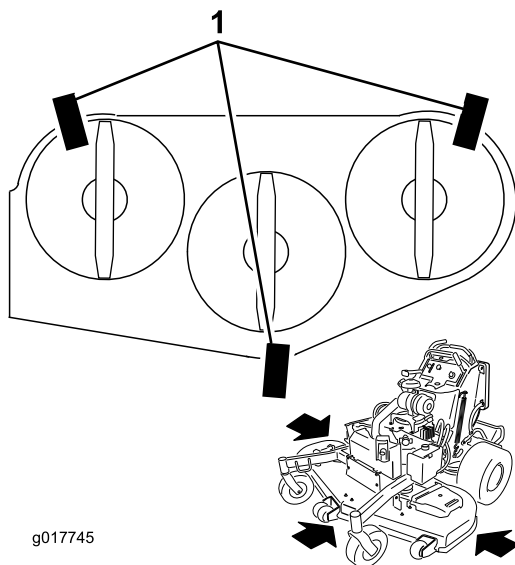

Figure 94
1. Place 3 pieces of 2x4 wood under the mower deck as shown in Figure 94.